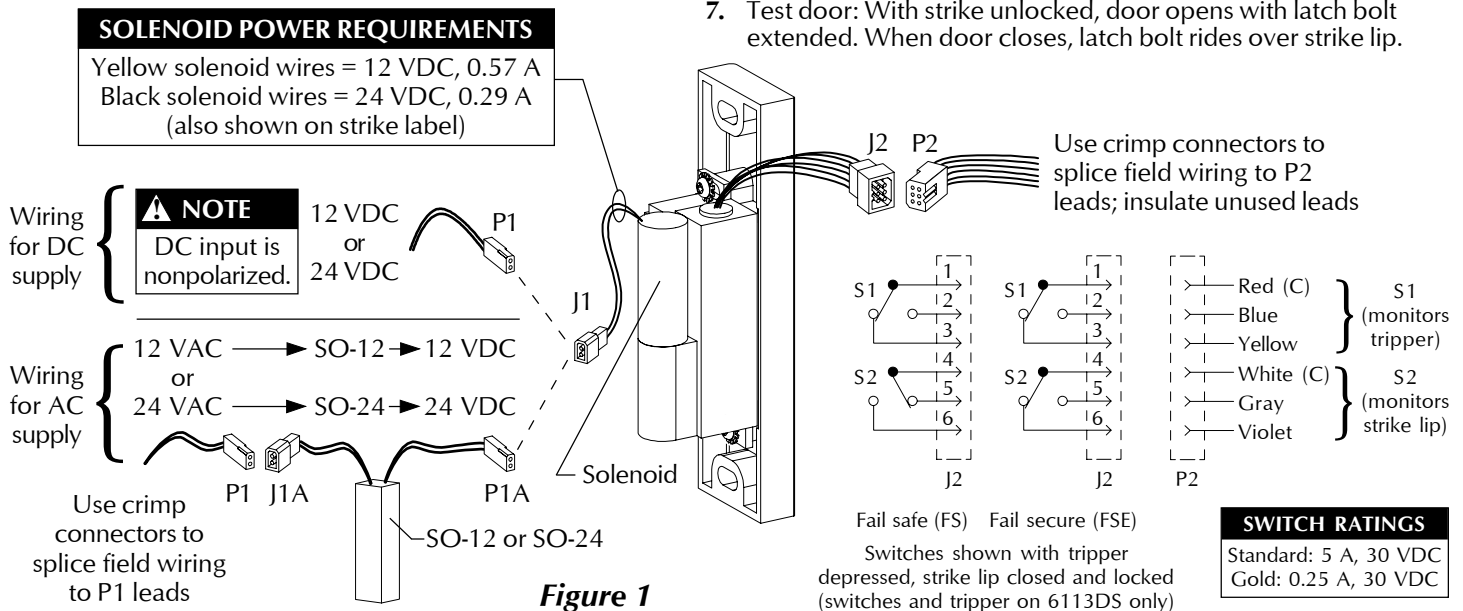

Figure 1
3. Wire strike (Figure 1). (Switches on 6113DS only.)
4. Test strike: Apply solenoid power. Fail secure (FSE) lip unlocks. Fail safe (FS) lip locks. Figure 1 shows status of switches.